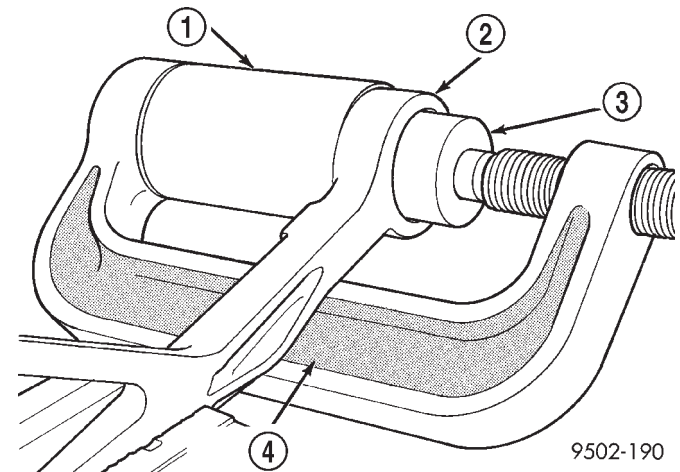

Fig. 83 Removing Lower Control Arm Rear Bushing
(1) Remove lower control arm assembly from vehicle. See Lower Control Arm Removal in this section of the service manual for the required removal procedure.
(2) Install Bushing Remover, Special Tool 6756 and Bushing Receiver, Special Tool C-4366-2 on Special Tool C-4212-F (Fig. 83).
(3) Install Special Tools assembled for removal of the rear isolator bushing on the lower control arm. Be sure Special Tool C-4366-2 is square on lower control arm and Special Tool 6756 is positioned correctly on isolator bushing (Fig. 83).